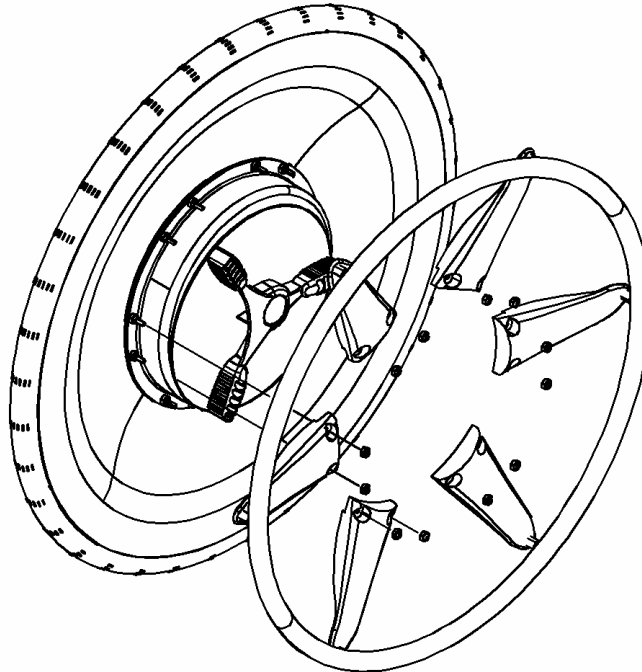

Figure 5: Handrim Installation
1. Using an 11/32" socket wrench, loosen and remove the 12 black lock nuts in the spokes around the central drum (Figure 5, Page 19).
1. To install a handrim assembly, place the handrim so that the holes in the spokes line up with the studs on the center drum (See Figure 5, Page 19).